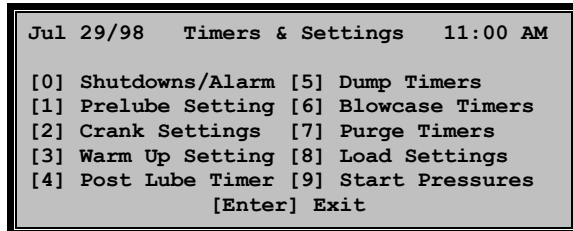

Figure 2–25
- (b) The TIMERS & SETTINGS MENU screen (Figure 2–25) will be displayed.